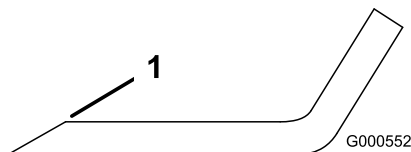

Figure 96
1. Use a file to sharpen the cutting edge at both ends of the blade (Figure 96).
Note: If the blade is not balanced, file some metal off the end of the sail area only (Figure 96).